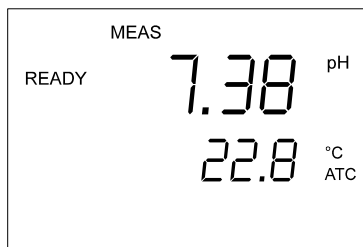

Figure 20: READY
5. Press the ▼ or ▲ key to scroll to the value of your conductivity standard. Press and hold the ▼ or ▲ keys to scroll faster. See Figure 20.